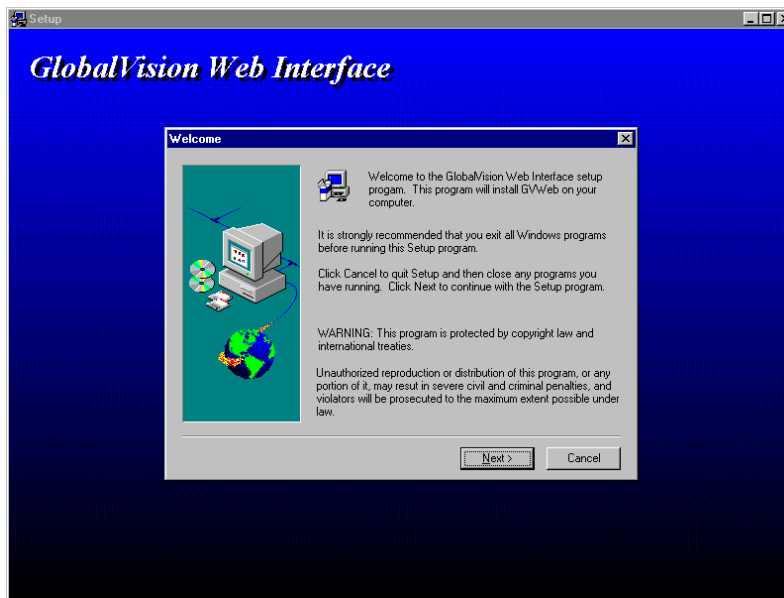

Figure 26 – Welcome dialog box
4. The WELCOME dialog box appears. Read carefully, as it **STRONGLY RECOMMENDS that all Windows programs be exited** before running the Setup program. After reading, click on **NEXT>**. See Figure 26.